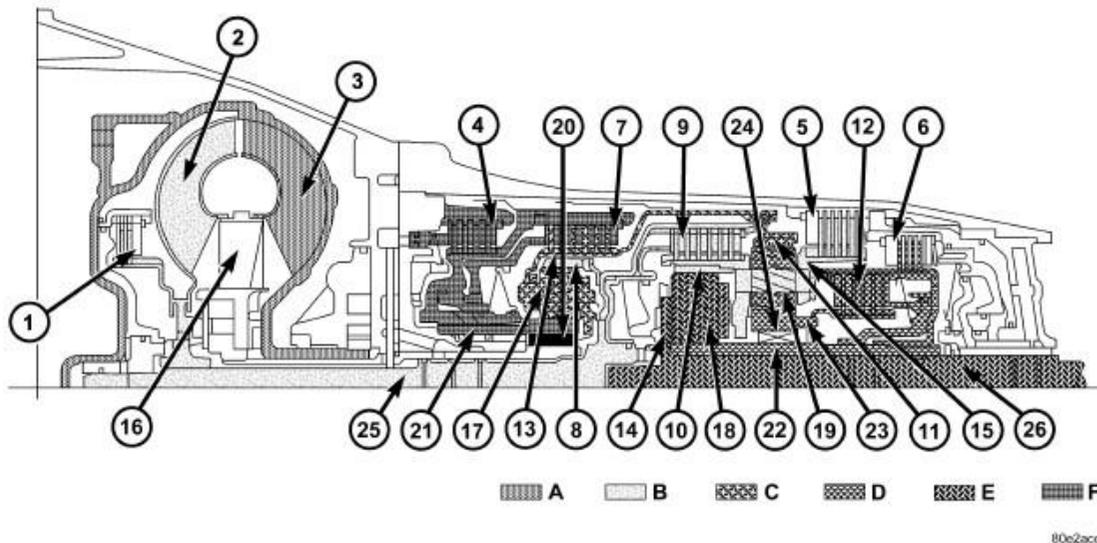

Fig. 11: Fifth Gear Powerflow (2 Of 2)
Torque from the torque converter is increased via the input shaft (25) and all three planetary gearsets and transferred to the output shaft (26). Refer to **Fig. 11** and **Fig. 10**.